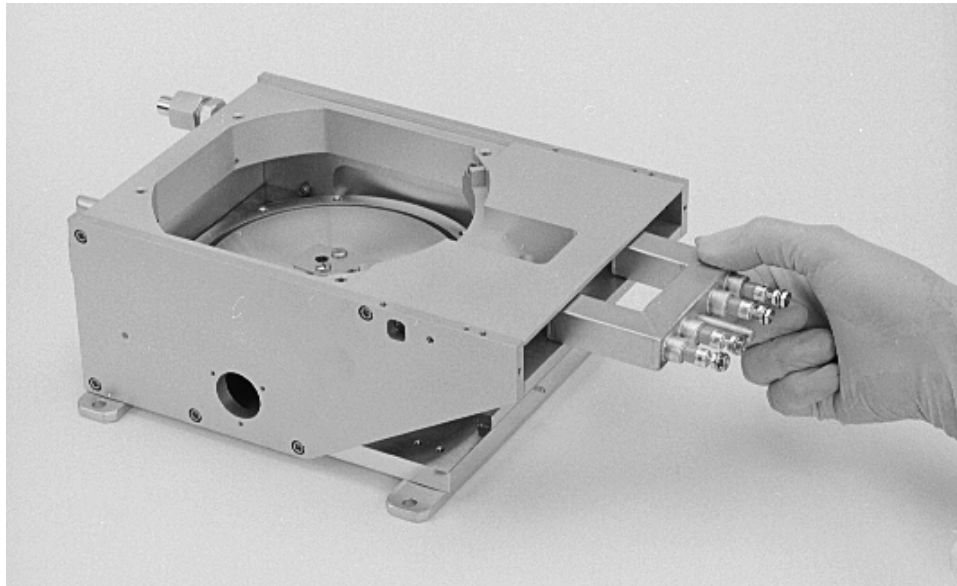

Figure 5-13. Removing the coil assembly
Step 12: Pull the coil assembly straight out of the coil housing, as shown in Figure 5-13.